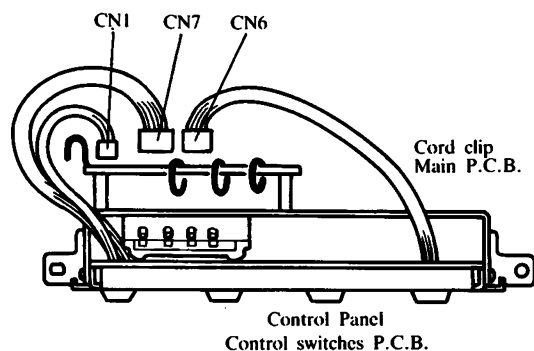

Fig. 10
- (1) Unfasten the Control switches P.C.B. cords from the Cord clip and disconnect the connector No. CN1, CN6 and CN7 from Main P.C.B.. (Refer to Fig. 10)